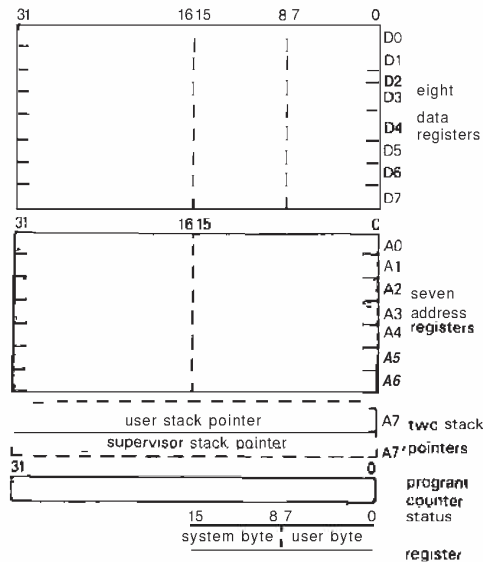

Figure 11.1. 68000/8 registers.
Figure 11.1 shows the internal registers of the 68000 (we will use "68000" to refer to features that are common to the 68000 and 68008). There are 8 *data registers* and 7 *address registers*, all of which are completely general-purpose; this contrasts with the 8086/18, in which AX (AL) must be used for I/O, DX for port addressing, etc. The *data registers* can hold bytes (8 bits), "words" (16 bits), or "longs" (32 bits), with the data type in any given operation specified in the assembly-language instruction itself (see below). You do your computation and byte-pushing in the data registers.